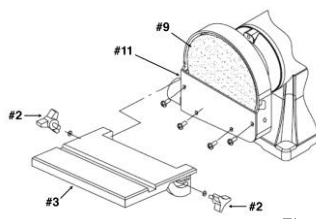

Fig. 1
1. Slide the disc table (#3) onto the disc guard (#11) (Fig. 1).